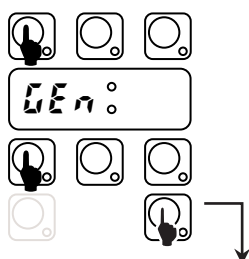

Fig. 17 Enter into User Mode (press for 5 sec)..
- Enter into the USER SETTING mode by pressing and hold down ON/OFF and CYCLE\_1 keys for at least **five seconds** the display shows  $\zeta E n$  (Figure 17);